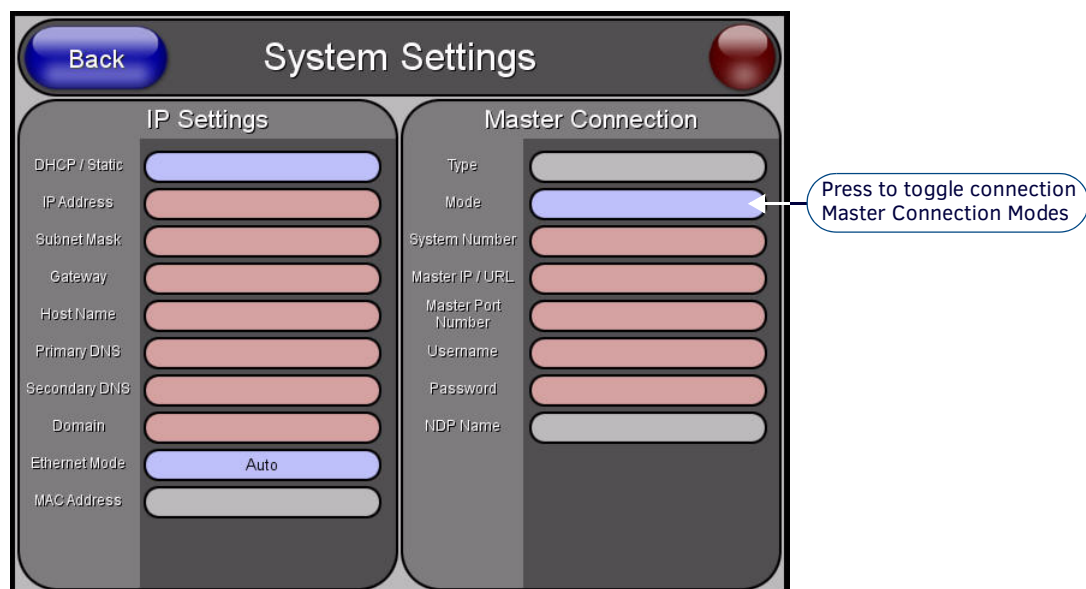

FIG. 43 System Settings page
- c. Press the **System Settings** button to open the *System Settings* page (FIG. 43).